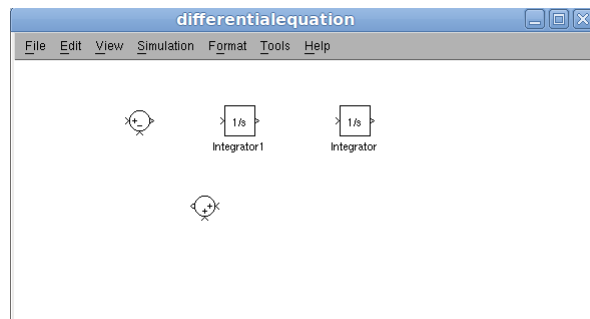

Figure 2: Simulink model with integrators and sums
4. Choose the group **Commonly used blocks** in the tree to the left and drag two **Sums** to the work space, see Figure 2. Double clicking on a **Sum** block opens the **Function Block Parameters** window where the **Sums** can be configured.